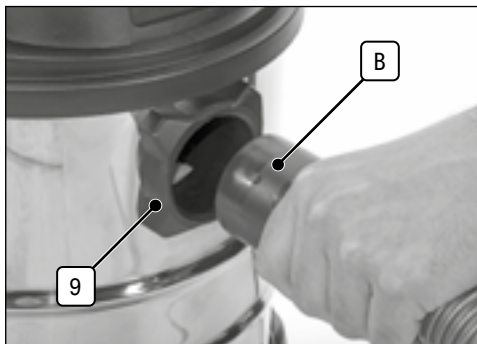

Fig. 3
4. Push the flexible hose (B) into the port (9), align the notch with the arrow on the port housing. Then turn anticlockwise to lock in place. (Fig. 3).